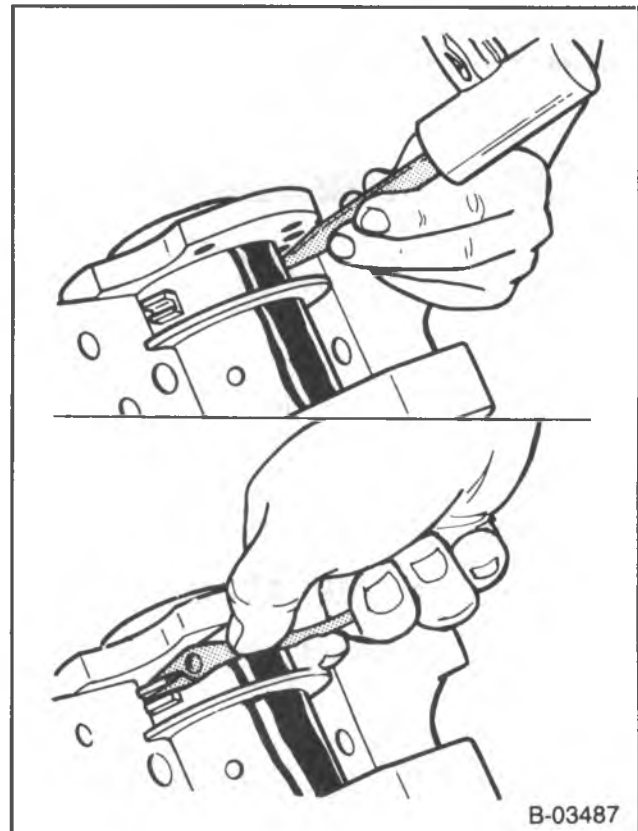

Figure 22 — Removing The Upper Seal Half
4. Upper seal half (figure 22).